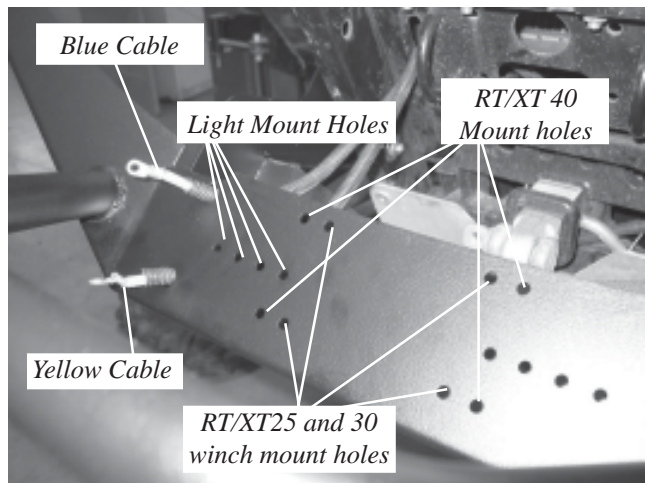

Figure 11
1. WARN winch mounting holes are shown in Figure 11. (RT/XT 25 and 30 winches use inside set of holes and RT/XT40 winches use outside set of holes). Recommended contactor location is under driver's seat, next to battery, as shown in Figure 12. Pull yellow cable through front hole and blue cable through rear hole after sliding conduit over top both cables. 1/4" ID conduit is to be used for RT/XT25 winches; 3/8" ID conduit for RT/XT 30 and 40 winches. Make sure there is enough slack in both cables so that when bumper is down, there is adequate cable length.
2. If no winch is mounted on bumper, the set of holes, as shown in Figure 11, can be used to mount a set of lights on top of bumper. If winch is used, there are holes on bottom of bumper, as shown in Figure 13, that can be used to mount a set of lights.